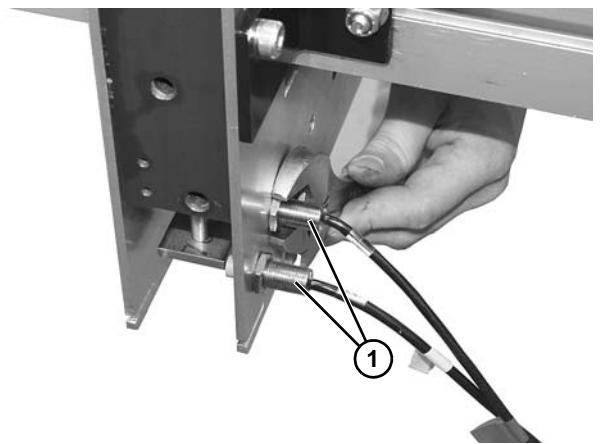

Figure 61
5. Remove proximity sensors (**Figure 61, item 1**) from lift side of unit.